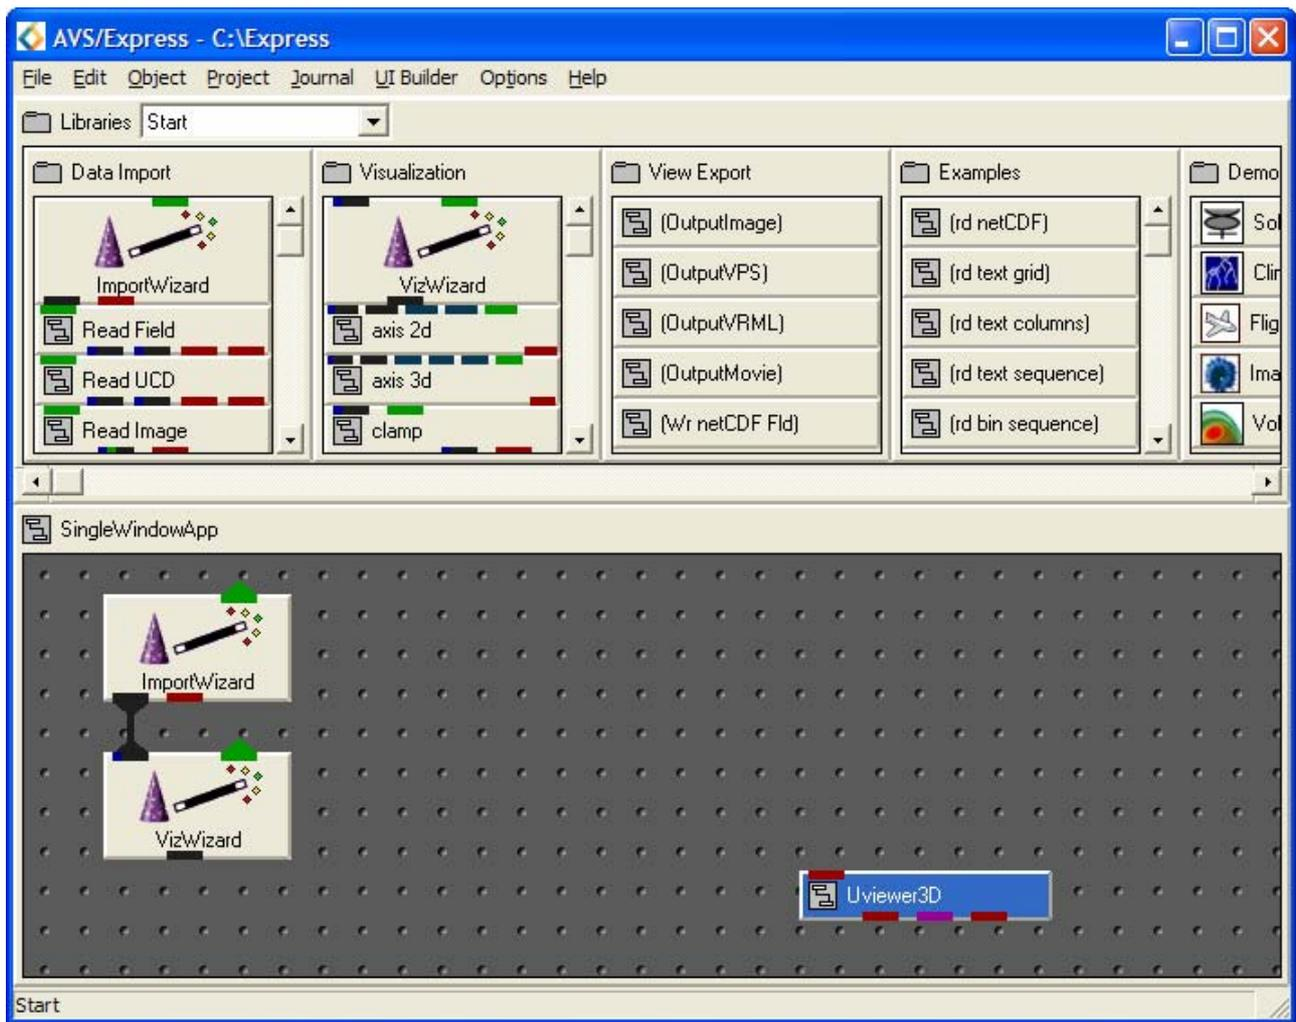

Figure C.21: Network Editor in **Start** Library with Wizards Instanced
- Repeat this process for the **VizWizard** located in the **Visualization** library. The network should appear similar to that shown in Figure C.21.